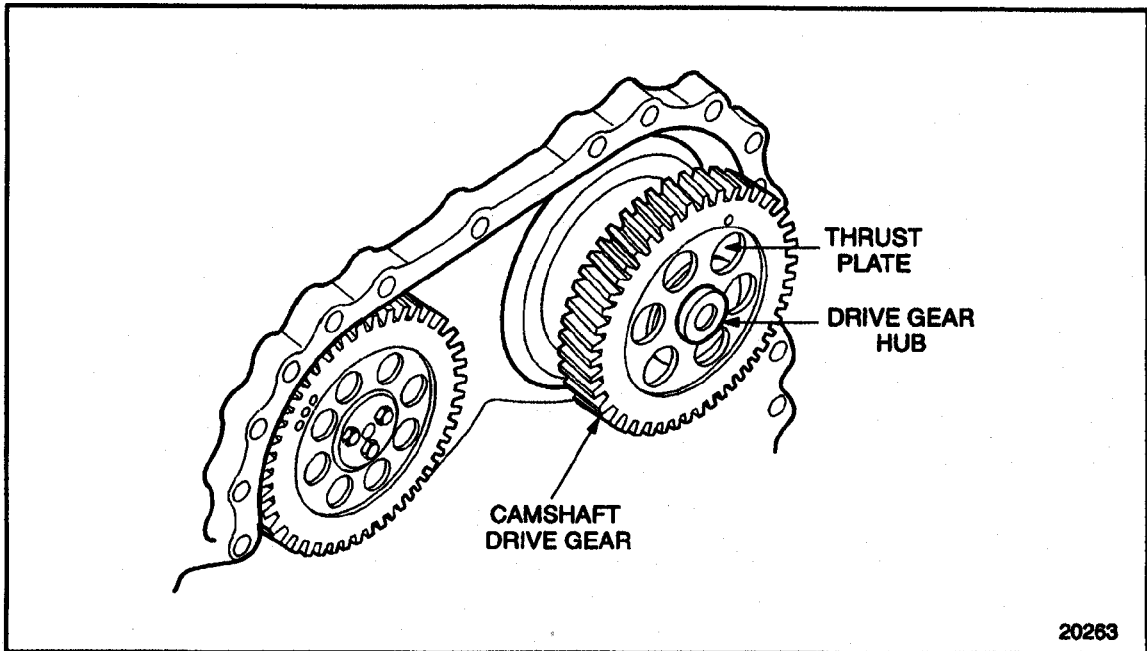

Figure 1-359 Camshaft Thrust Plate Assembly
7. Remove the camshaft thrust plate, hub, and camshaft drive gear as an assembly. See Figure 1-359.